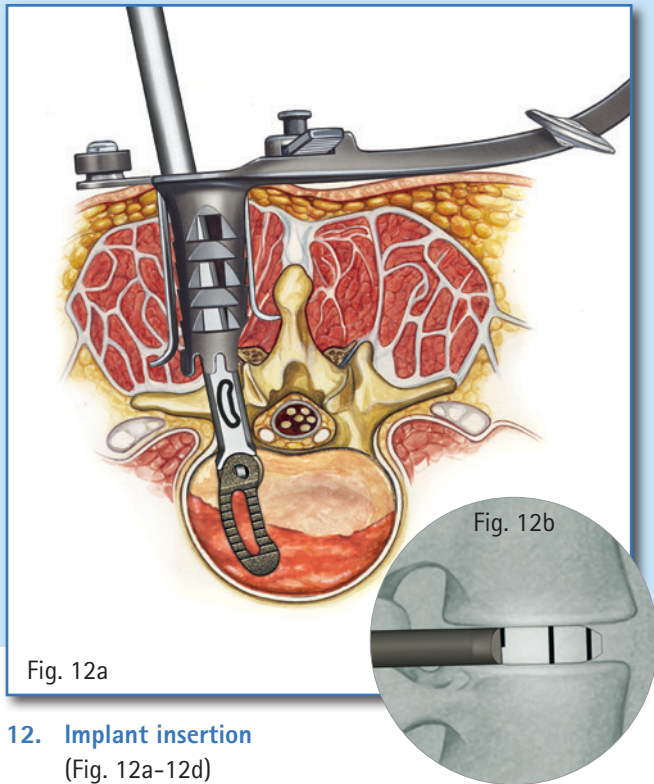

Fig. 12a
- Use the articulating inserter with the TSpace^{XP} trials until the desired position is reached. The trial positioning is performed in the same way as the implant positioning. Please refer to Fig. 12a-12d for the description of the insertion steps.
(Fig. 12a-12d)